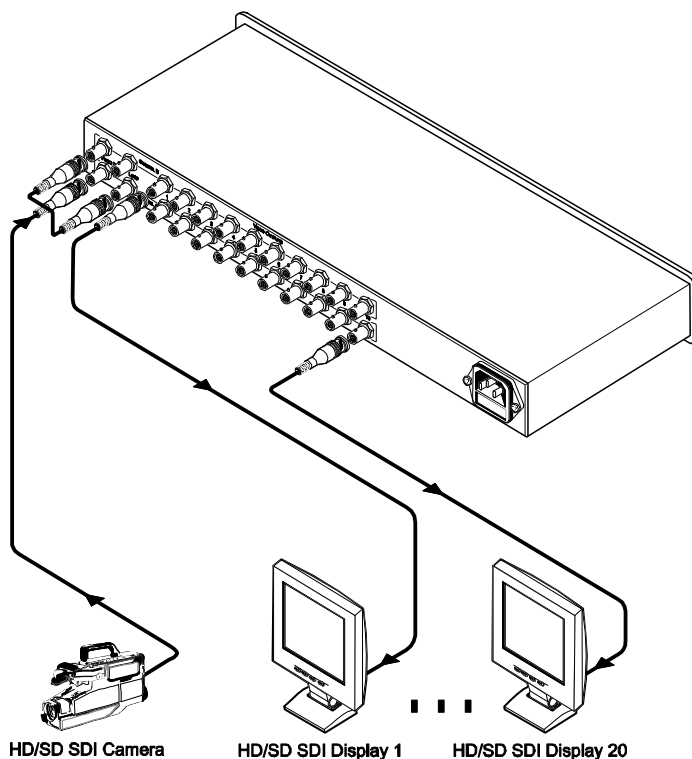

Figure 2: Connecting the VM-20HD Dual 1:10 HD/SD - SDI Distribution Amplifier
To connect the **VM-20HD**, as the example in Figure 2 illustrates, do the following¹:
4. Connect the power cord (not illustrated in Figure 2).